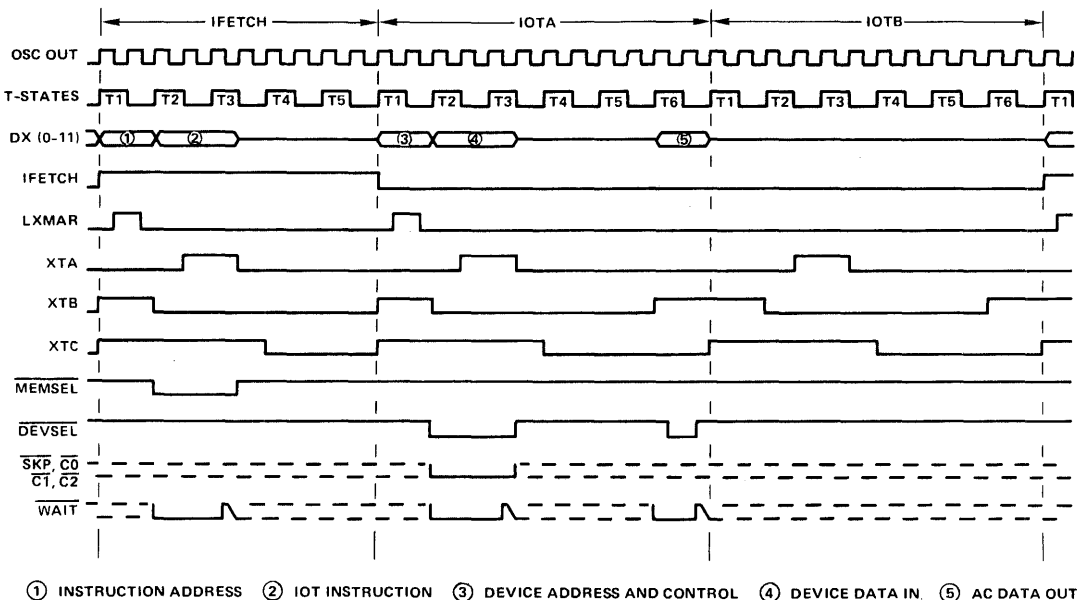

FIGURE 10 - Input-output instruction timing
Programmed Data Transfer is the easiest, simplest, most convenient and most common means of performing data I/O. For microprocessor applications, it may also be the most cost effective approach. The data transfer begins when the HM-6100 fetches an instruction from the memory and recognizes that the current instruction is an IOT (2). This is referred to as an IFETCH and consists of five (5) internal states. The HM-6100 sequences the IOT instruction through a 2-cycle execute phase referred to as IOTA and IOTB. Bits 0 - 11 of the IOT instruction are available on DX0 - 11 at IOTA \wedge LXMAR (3). These bits must be latched in an external address register. DEVSEL is active low to enable data transfers between the HM-6100 and the peripheral device (4 & 5). Input-Output Instruction Timing is shown in Figure 10. The selected peripheral device communicates with the HM-6100 through 4 control lines - C0, C1, C2 and SKP. In the HM-6100 the type of data transfer, during an IOT instruction, is specified by the peripheral device(s) by asserting the control lines as shown in Tables 5-1 and 5-2.